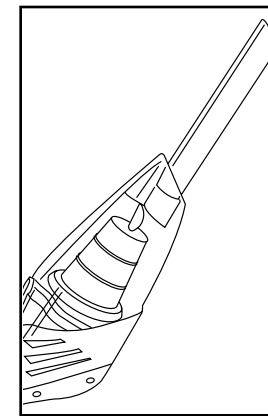

Fig. 6
4. Insert crevice tool/dust brush into the opening of nozzle to extend reach. (Fig. 6)